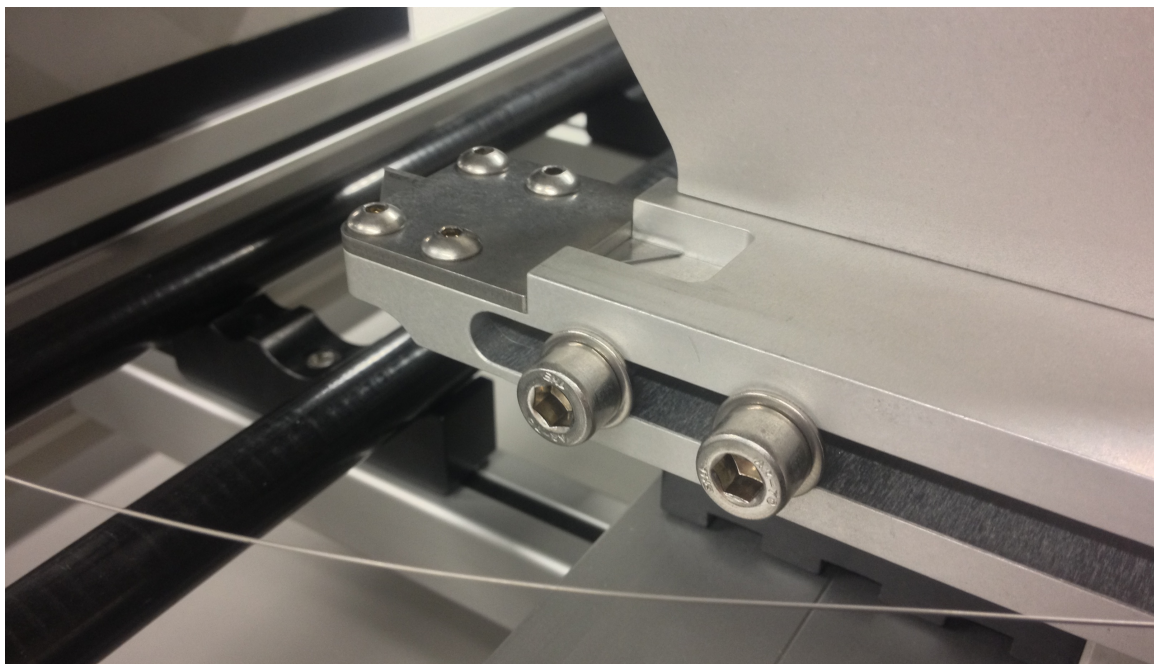

Figure 8. Knife blade position adjustment.
- 4.2. If the knife blades are to be used then these should be positioned so that they *just* cut through the core liner. The knife blade position can be adjusted by slackening the two M8 bolts holding them in position (see Figure 8) and sliding their mounting blocks in or out to the correct position. Note: the knife blades should be held in the clamping mechanism such that only the length of blade required to cut the liner is exposed.